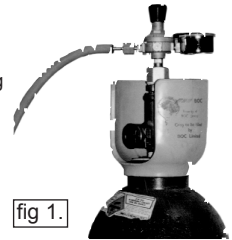

fig 1.
- 3.2.2. Fit the gas regulator on the Bull Nose Adaptor and connect it to the machine gas hose (fig.1).